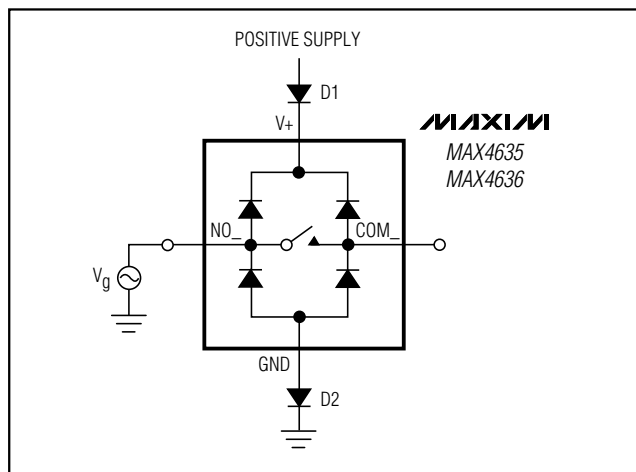

Figure 5. Overvoltage Protection Using Two External Blocking Diodes
**Caution:** Do not exceed the absolute maximum ratings because stresses beyond the listed ratings can cause permanent damage to the device. Proper power-supply sequencing is recommended for all CMOS devices. Always apply  $V+$  before applying analog signals, especially if the analog signal is not current limited. If this sequencing is not possible, and if the analog inputs are not current limited to less than 30mA, add a small-signal diode (D1) as shown in Figure 5. If the analog signal can dip below GND, add D2. Adding protection diodes reduces the analog range to a diode drop (about 0.7V) below  $V+$  (for D1), and a diode drop above ground (for D2).
On-resistance increases slightly at low supply voltages. Maximum supply voltage ( $V_+$ ) must not exceed +6V. Adding protection diode D2 causes the logic threshold to be shifted relative to GND. Protection diodes D1 and D2 also protect against some overvoltage situations. With Figure 5's circuit, if the supply voltage is below the absolute maximum rating, and if a fault voltage up to the absolute maximum rating is applied to an analog signal pin, no damage results.